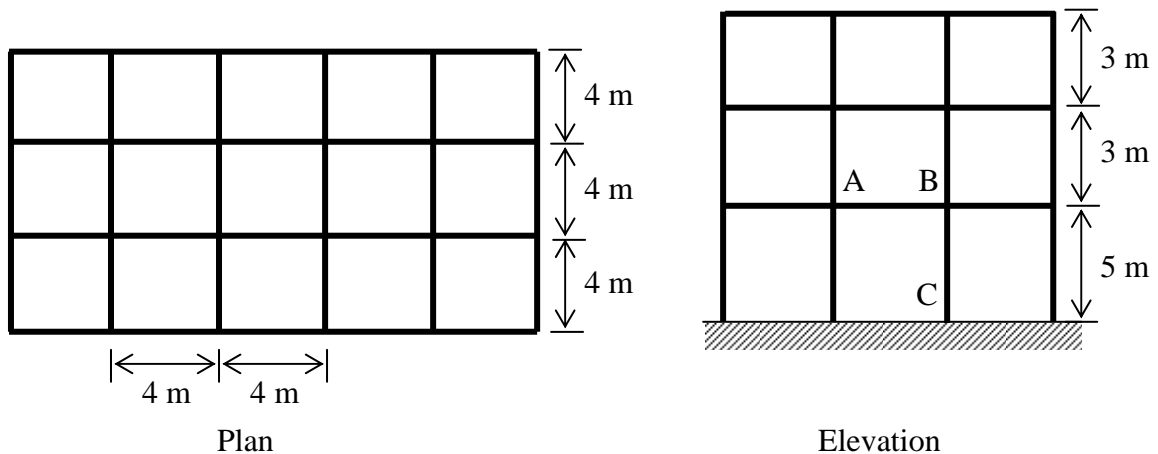

Figure 1
- b) Figure 1 shows a reinforced concrete framed building. The beams are 200 mm wide by 400 mm deep. Column sections are 300 mm by 300 in the first two (lower) stories and 200 mm by 200 mm elsewhere. The dead load per unit area of floor slabs (100 mm thick) including screeding and plastering is 360 kg/m². The weight of the wall, considered lumped on each floor level, is 12530 kg for the first floor, 9050 kg for the second floor and for the third floor, and 3830 kg for the roof. The building is located in Zone 1 and the site soil is classified as S_E.